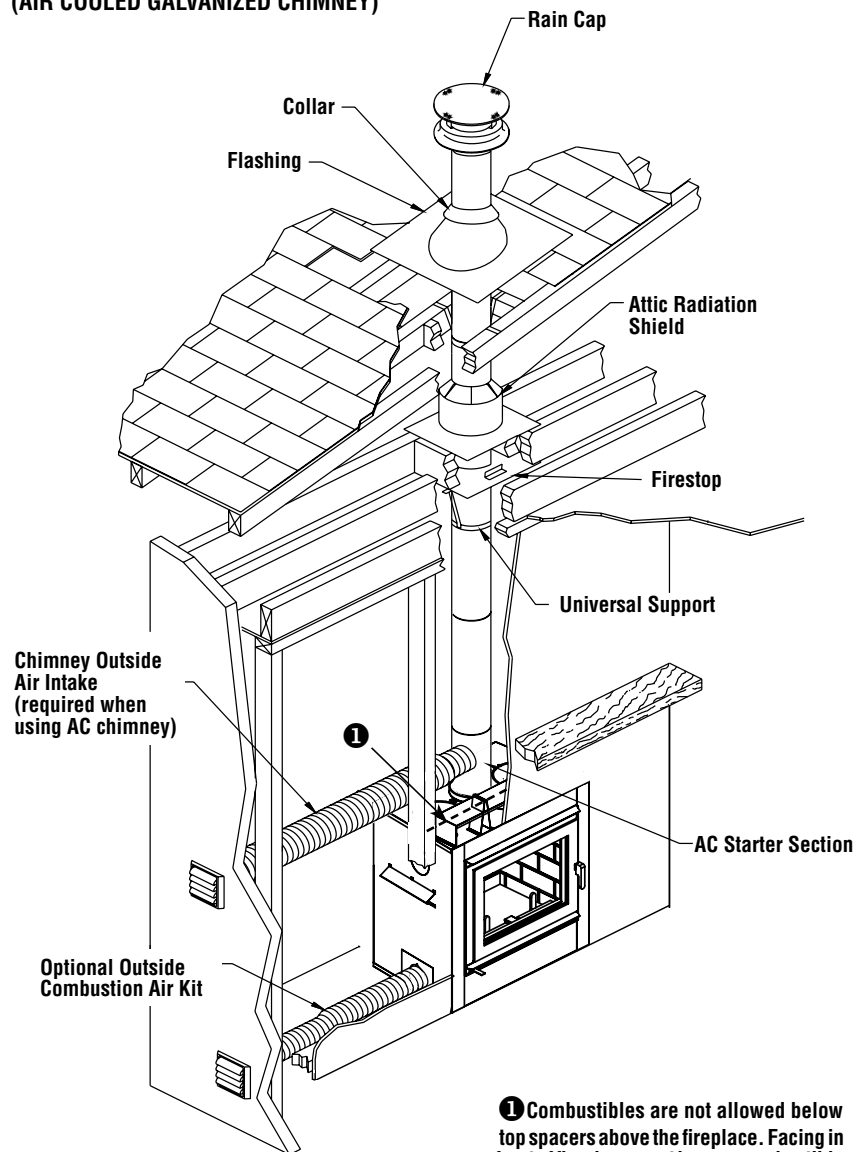

Figure 25
3. For ASHT+ / HT6103+ and S2100+ / HT6000+ chimneys place the first chimney length on the fireplace. To lock it in place, turn 1/4 of a turn clockwise. With the AC chimney, you must use a starter section before installing the first chimney length (**Figure 25**). Continue installing chimney lengths making sure to lock each length in place.